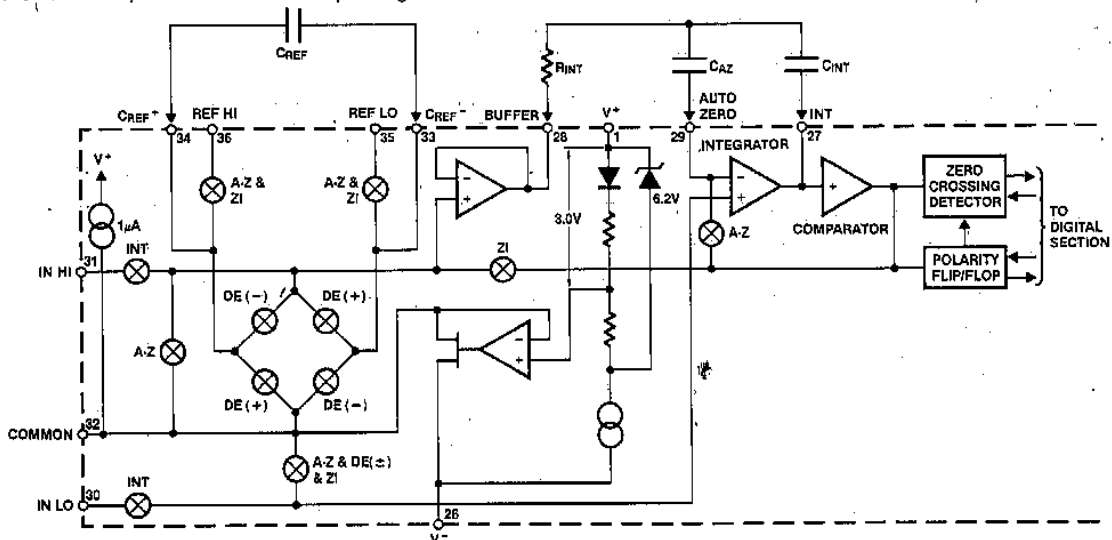

Figure 3. Analog Section of 7137
Figure 3 shows the Block Diagram of the Analog Section for the ICL7137. Each measurement cycle is divided into four phases. They are 1) auto-zero (A-Z), 2) signal integrate (INT), 3) de-integrate (DE) and 4) zero integrator (ZI).